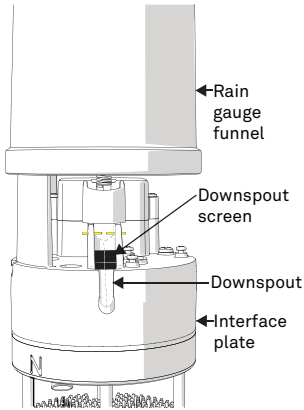

Figure 12 Downspout
- c. Check the downspout (Figure 12) for debris.